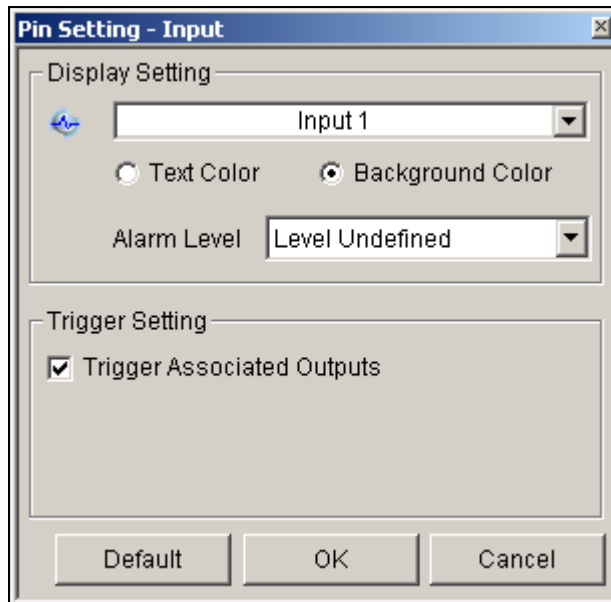

Figure 6-18
- **Use User-defined Text:** Allows you to modify the text of Alarm Level (Figure 6-18).